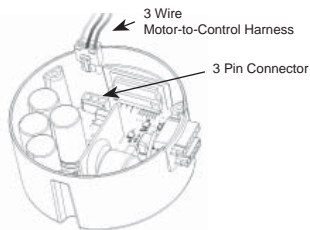

Figure 14b
- Disconnect the three-wire motor-to-control harness from the control [Figure 14b] and remove control unit [Figure 13b]. Inspect for bent, damaged, or recessed wires and terminals inside of connector.